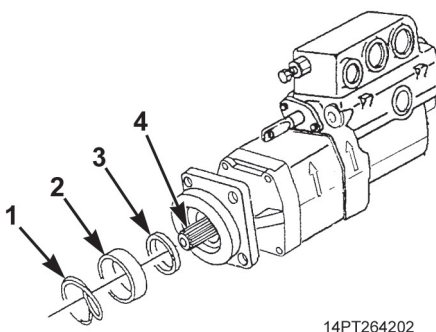

Figure 11. Drive Shaft Retaining Ring Installation.
14. Install seal retainer (Figure 11, Item 3), spacer (Figure 11, Item 2), and new retaining ring (Figure 11, Item 1) on drive shaft (Figure 11, Item 4).